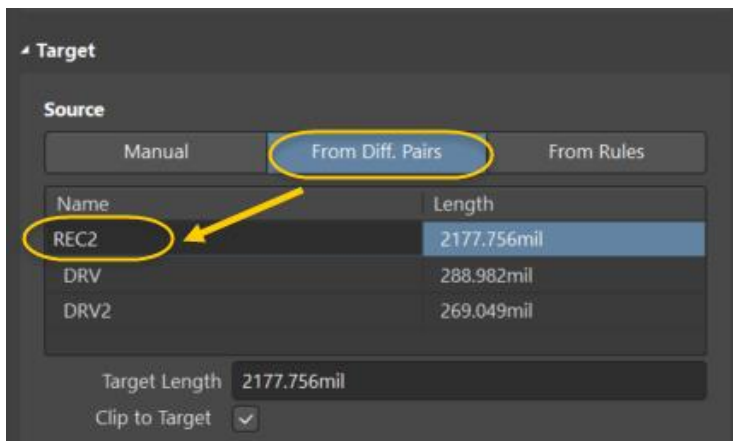

Figure 3. Target length for the differential pair length tuning
19. In the *Properties* panel, in the *Target* section, set the *Source* to **From Diff. Pairs** as shown in Figure 3.